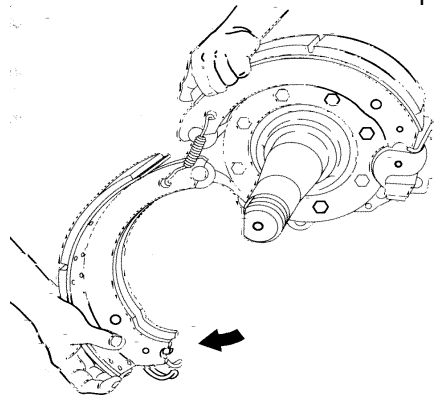

Fig. 3, Remove the Springs and Brake Shoes
- 5.4 Rotate the bottom shoe to release tension on the two retaining springs. Remove the springs and brake shoes. See Fig. 3.